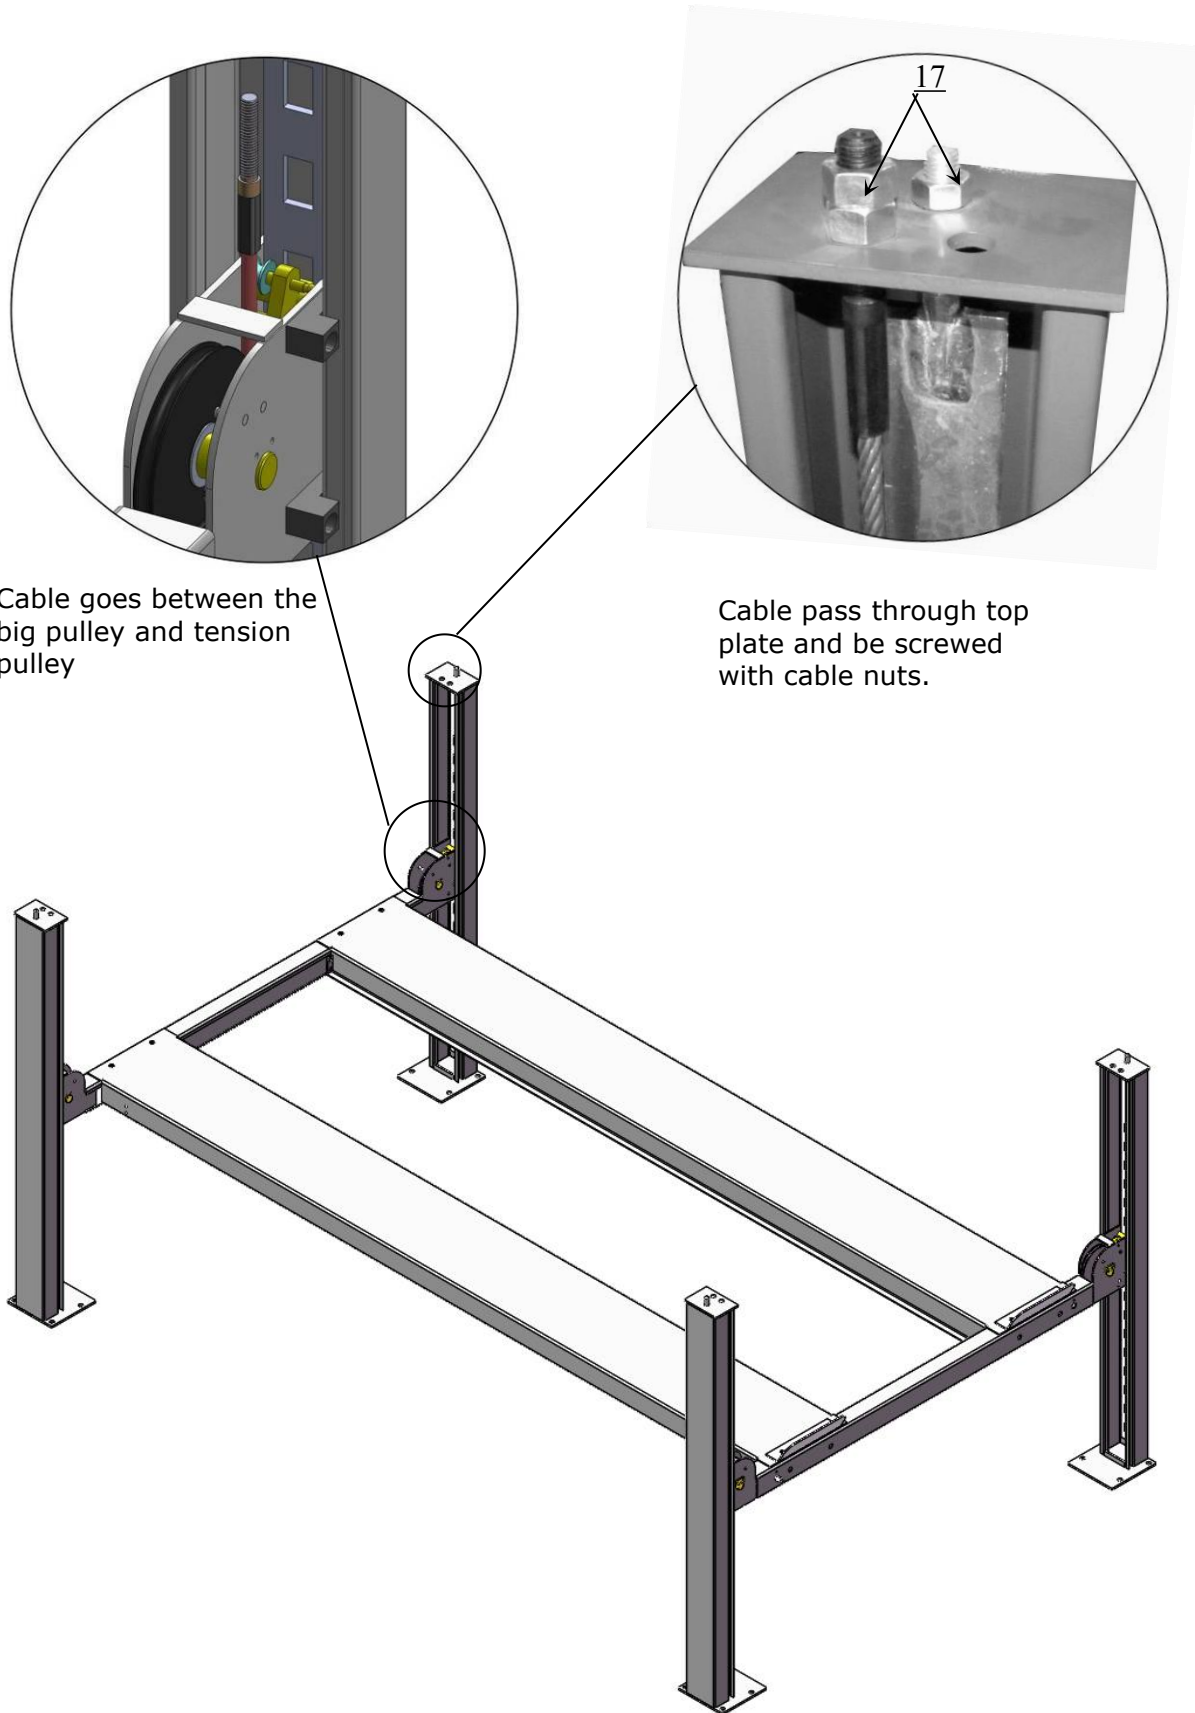

Fig. 21
2. The cable goes through the cross beam to top plate of columns and be screwed with cable nuts (**See Fig. 21**).